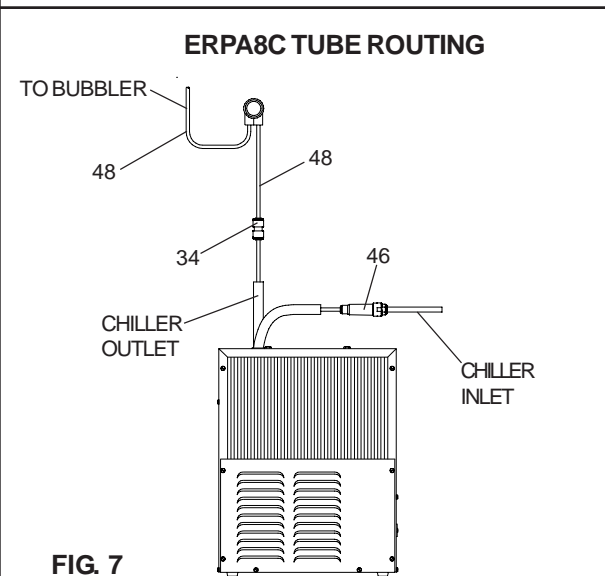

FIG. 7
3. **ERPA MODELS:** Make connection between remote chiller and building supply line. Inlet port is marked on the chiller (1/4" O.D. copper tube). Bend the copper tube (provided) at an appropriate length from chiller to opening in frame. Install the in-line strainer (provided with chiller) by pushing it in until it reaches a positive stop, approximately 3/4" (19mm) on the marked chiller inlet port. Connect building supply line to strainer. **DO NOT SOLDER TUBES INSERTED INTO THE STRAINER AS DAMAGE TO THE O-RINGS MAY RESULT.** (See Figure 7)
5. **Install** the fountain. Remove access cover plate on underside of fountains and save the screws. Mount the fountain to the upper panel and the wall frame with (4) 5/16" x 1 3/4" (44mm) long bolts and nuts (provided). Install spacers on bottom two bolts. Tighten securely.
7. **ERPA MODELS:** Make connections between remote chiller outlet tube and fountain. Outlet port is marked on the chiller (1/4" O.D. copper tube). Install a 1/4" x 1/4" union (provided) on the marked chiller outlet port. Insert the 1/4" poly tubing coming from the fountain into the union. Turn on water supply and check for leaks. **DO NOT SOLDER TUBES INSERTED INTO THE UNIONS AS DAMAGE TO THE O-RINGS MAY RESULT.** (See Figure 7).